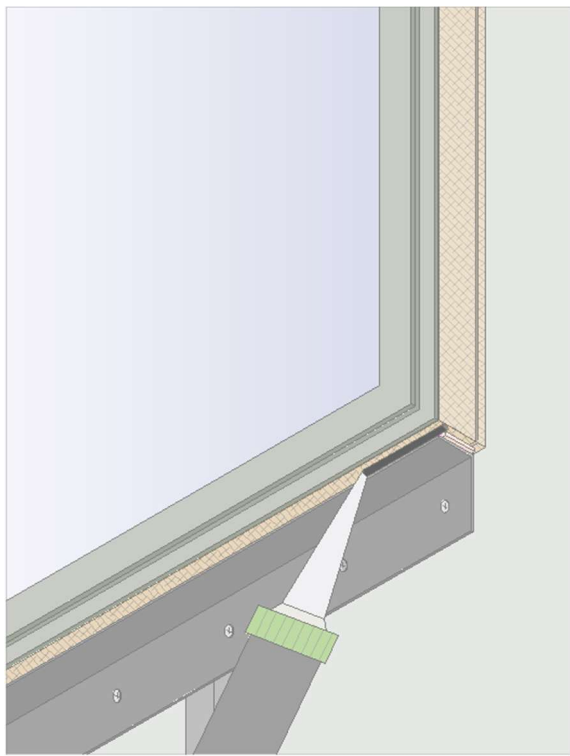

Figure 3
- Once happy with the positioning, set aside and apply a uniform 10 mm diameter bead of paste adhesive on to the frame in a straight line (Figure 3).